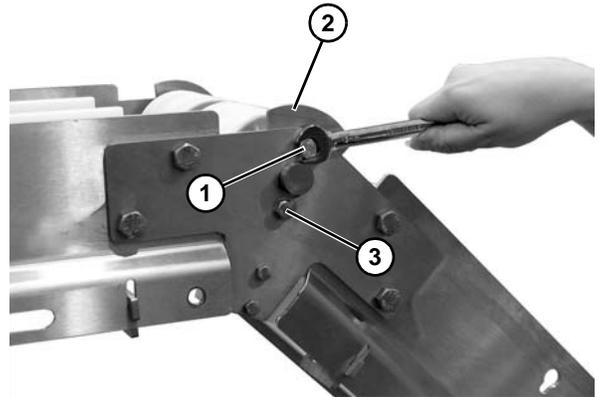
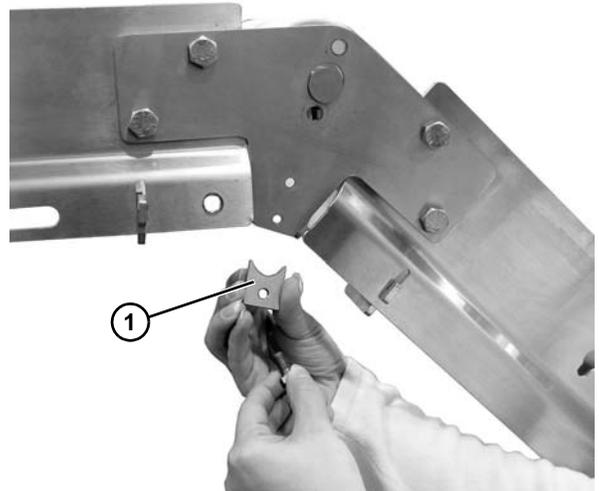

Figure 68
Figure 69
2. Remove cap screw (**Figure 68, item 1**) and edge guide plate (**Figure 68, item 2**) from each side of the conveyor.
3. Remove the cap screw (**Figure 68, item 3**) and shaft clamp (**Figure 69, item 1**) from each side of the conveyor.